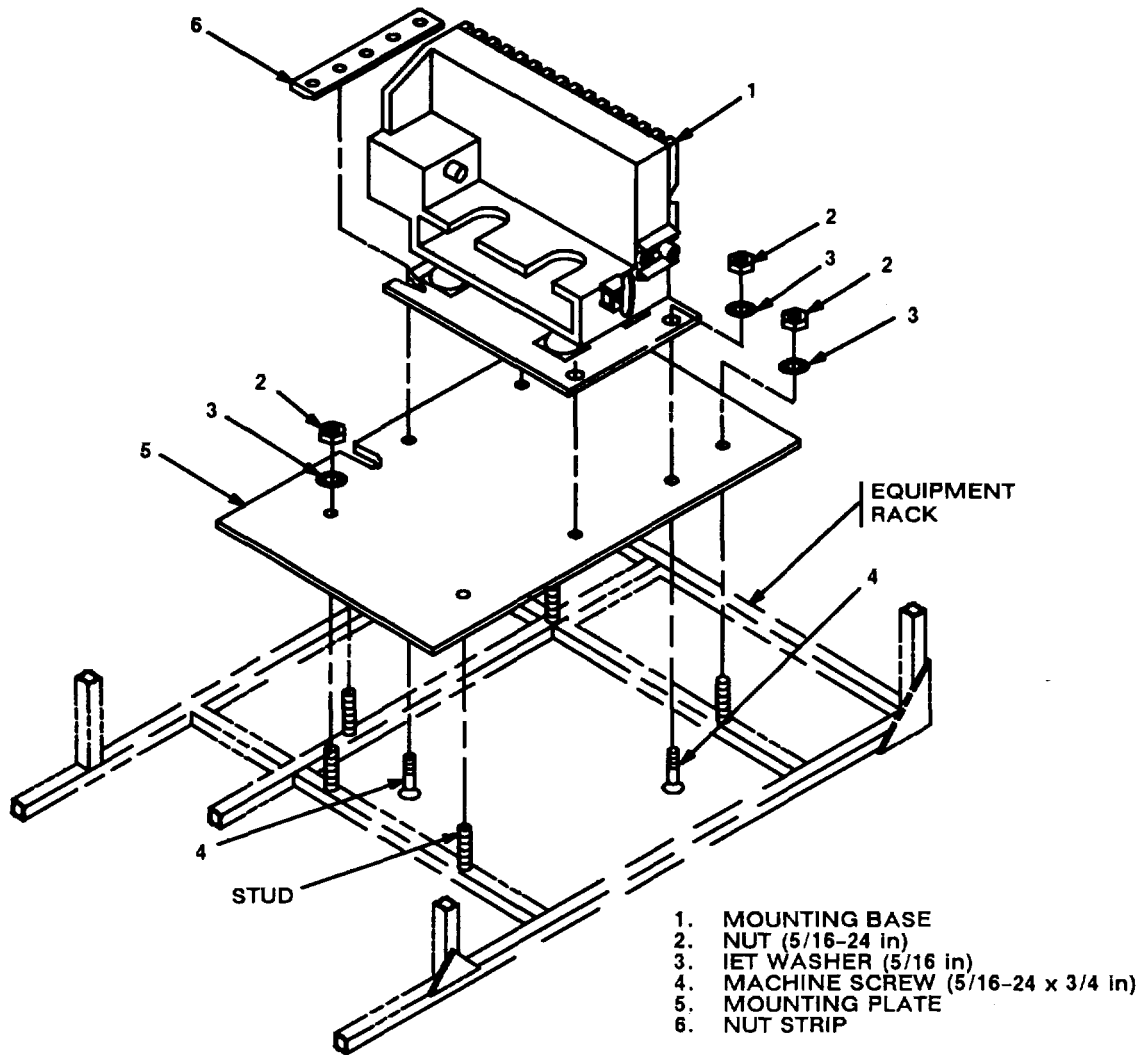

Figure 5-7. MT-6353/VRC Mounting Base Installation
| a. MT-6353/VRC mounting base (1). | Place on mounting plate (5); then aline mounting holes. See figure 5-7. |
b. MT-6353/VRC mounting base (1).	Aline front holes and rear slots with matching holes in mounting plate (5). See figure 5-7.
c. Two flat-head machine screws (4) and nut strip (6).	Install and secure to rear slots in MT-6353/VRC mounting base (1) and mounting plate (5).	Tools: 1/2 in open/box wrench.
d. Two flat-head machine screws (4), two IET washers (3) and two nuts (2).	Install and secure to front holes in MT-6353/VRC mounting base (1) and mounting plate (5).	Tools: 1/2 in socket or 1/2 in open/box wrench.
e. Mounting plate (5).	Place on bottom right shelf of equipment rack; then aline holes over existing studs.
f. Five nuts (2) and five IET washers (3).	Install and secure to mounting plate (5) and existing studs.	Tools: 1/2 in socket.